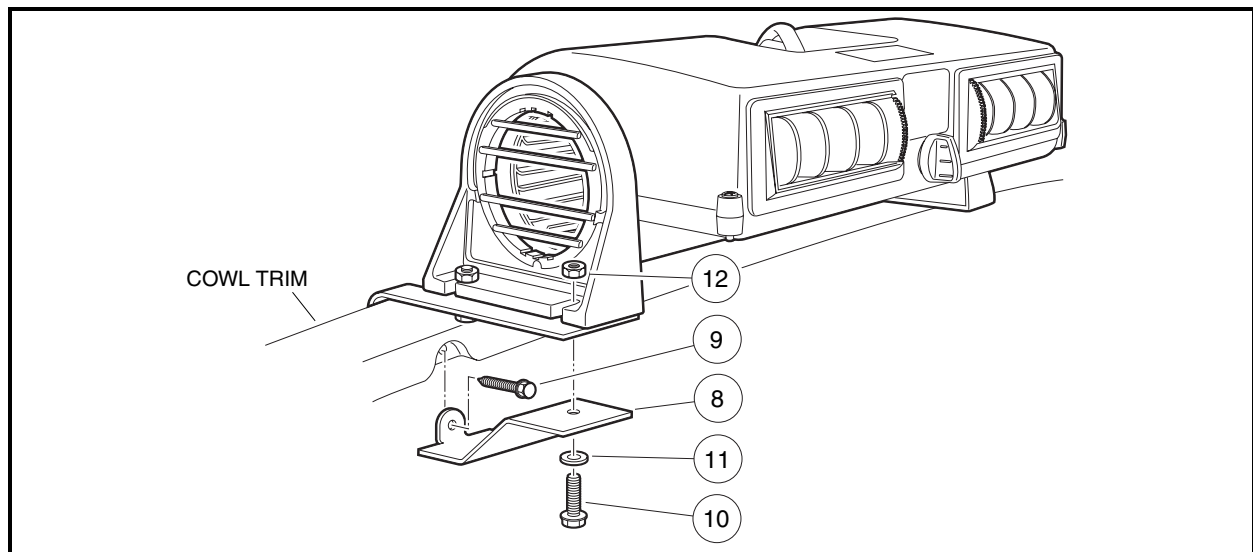

Figure 9 Secure Blower to Cowl
- 2.6. Before securing the lower aluminum brackets (8), fully thread the Torx screws (9) into the bracket holes (**Figure 9**). Secure the lower brackets to the cowl trim. Secure the upper and lower brackets together with remaining nylon bolts (10), washers (11), and nuts (12) as shown.